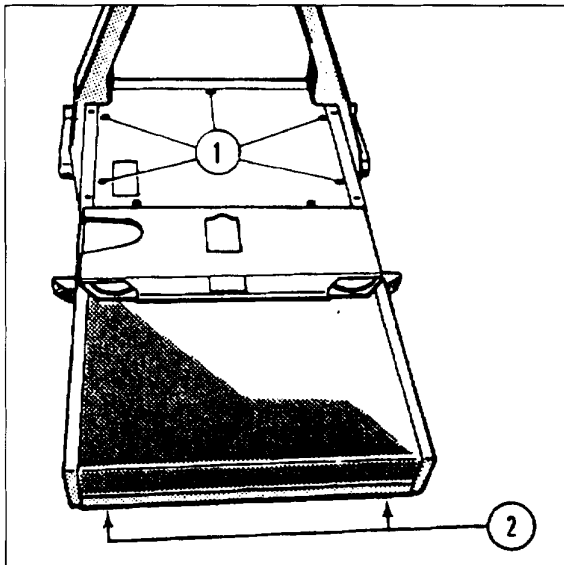

Fig. 3
- Remove the five screws (1/Fig.3).
- Remove the two cover screws (2/Fig.3).